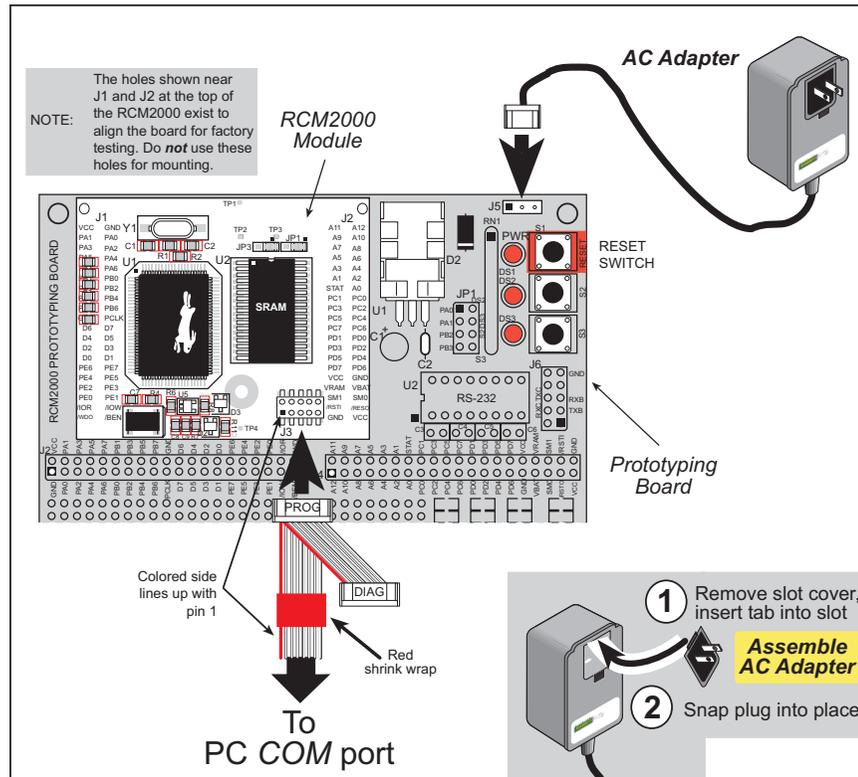

Figure 2. RCM2000 Power and Programming Connections
Connect the 10-pin connector of the programming cable labeled **PROG** to header J3 on the RCM2000 module as shown in Figure 2 below. Be sure to orient the red edge of the cable towards pin 1 of the connector. (Do not use the **DIAG** connector, which is used for a normal serial connection.)
- The programming cable must be connected to the RCM2000. (The colored wire on the programming cable is closest to pin 1 on header J3 on the RCM2000, as shown in Figure 2.) The other end of the programming cable must be connected to the PC serial port. The COM port specified in the Dynamic C **Options** menu must be the same as the one the programming cable is connected to.